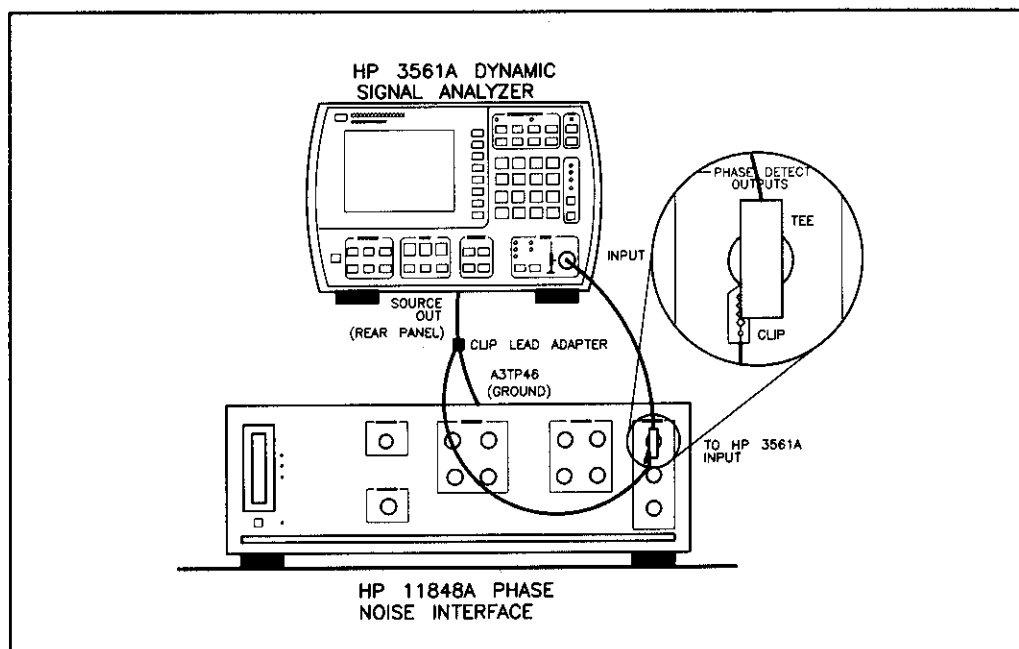

Figure 14. A3 Ground Isolation Setup
9. Using a BNC-to-clip lead adapter of the cable from the HP 3561A noise source, connect the instruments as shown on the display and in figure 14.